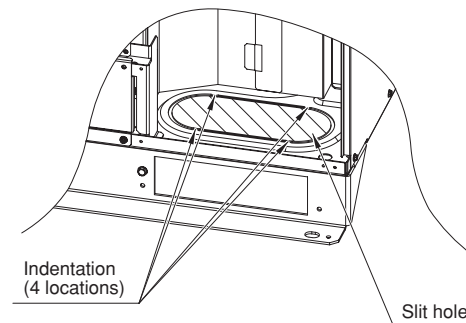

Fig. 4-7
- (2) If the tubing is routed out from the bottom, remove the slit hole (). (Fig. 4-7)